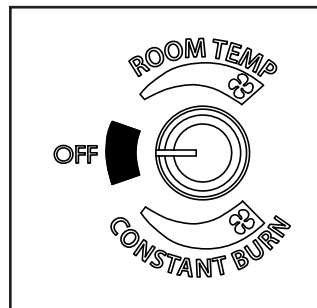

Figure 4.1
1. A room sensor is required for proper operation of this appliance in “Room Temp” mode. At this time, fill the hopper with pellets, insure the control is set to “OFF”. Figure 4.1. Plug the power cord into a properly grounded, nearby outlet.